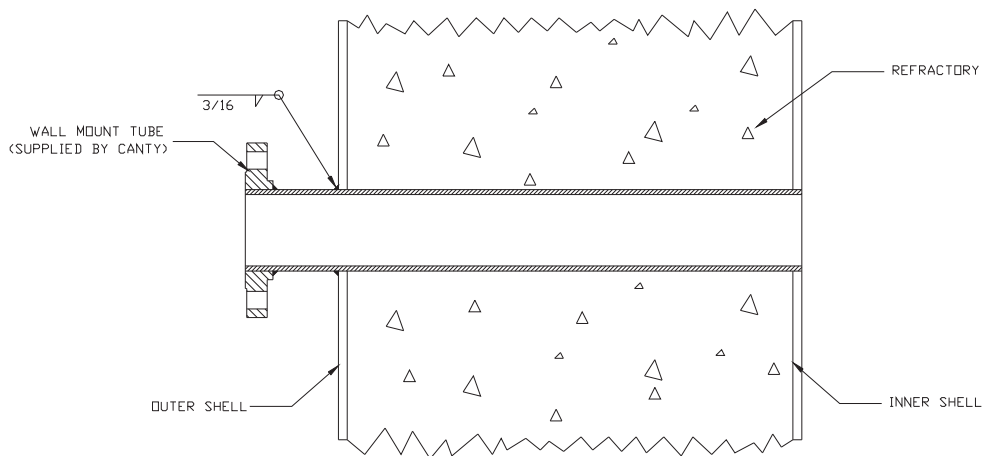

Fig. 1 Wall Mount Tube Welding Detail - Perpendicular Mount
If your camera system includes a Canty wall mount tube, the system is factory assembled and aligned. A typical camera assembly is shown in Figure 7. Typical welding installations are shown in figs 1 and 2. The unit does not have to be disassembled for welding if it is properly protected. The camera system must be protected from hot weld spattering on any of its parts. All warranties will be void if any spatter is found on any of the components.
- The wall mount tube must be inserted to the correct depth into the door or refractory wall. See figures 1 and 2 below for optimum installation tips. *The wall mount tube must be welded at a depth so as not to protrude into the flame, and should be mounted flush with the inside wall of tank, pipe or vessel . If the wall mount tube is too short, or is not welded in deep enough, you will see "tunneling" on the video picture.* (Be sure the spray tube does not protrude into the flame). It may be up to 2" shorter without any loss in picture quality.